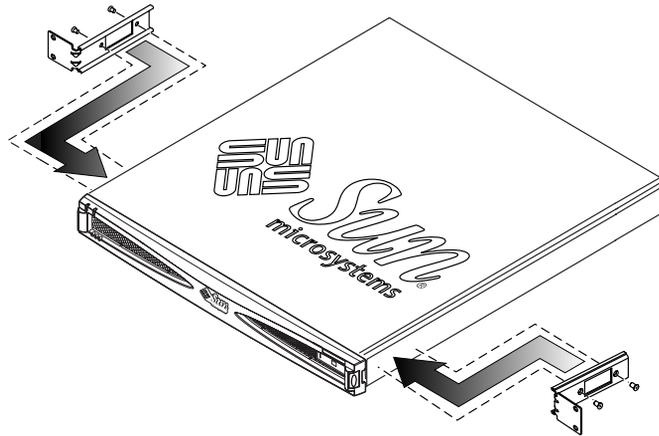
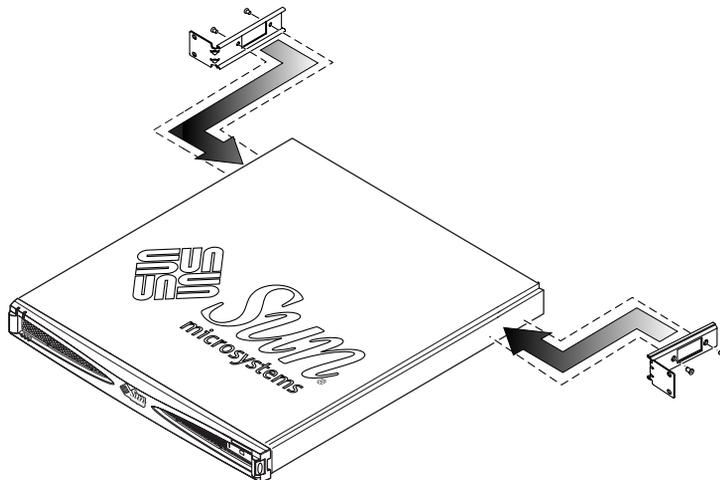

FIGURE 3-9 Attaching the Rackmount Bracket Towards the Front
FIGURE 3-10 Attaching the Rackmount Bracket Towards the Rear
1. **Attach the two fixed brackets either to the second and third tapped holes toward the front of the system (see FIGURE 3-9) or to the tapped holes towards the rear of the system (see FIGURE 3-10).**